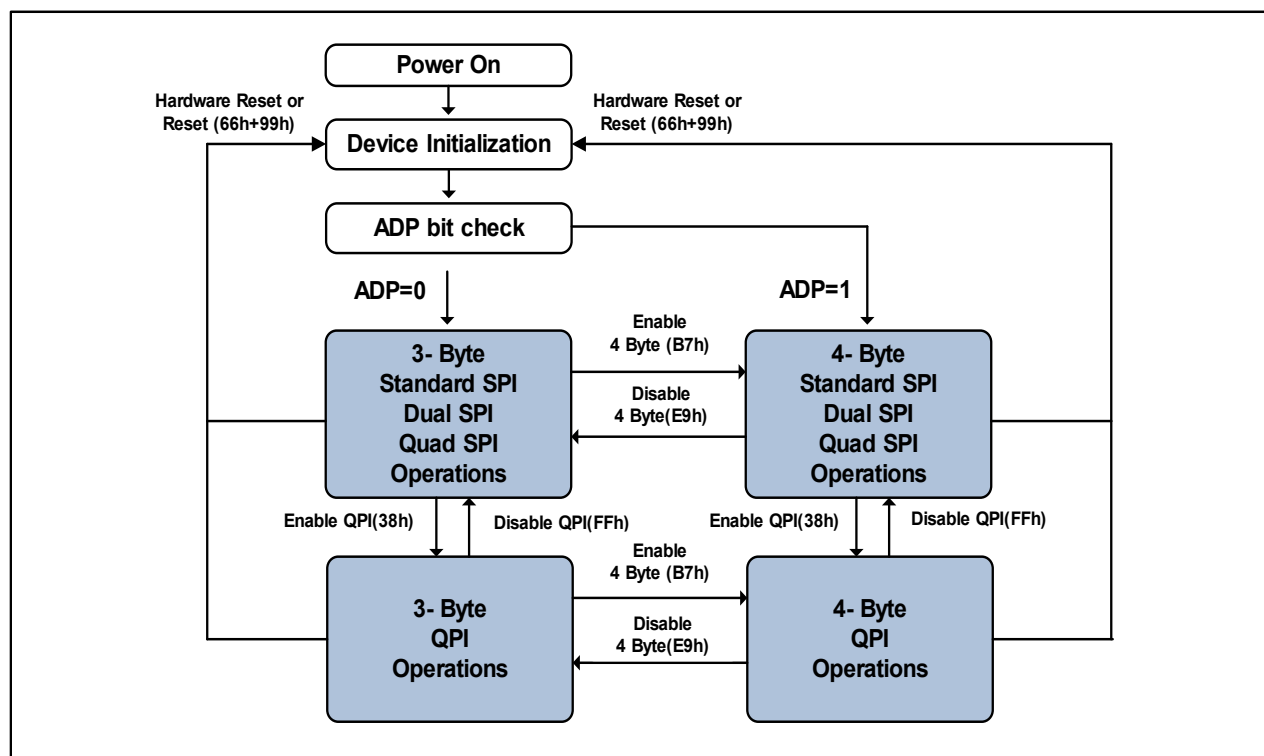

Figure 3. DS25M4BA Serial Flash Memory Operation Diagram
The DS25M4BA supports Quad Peripheral Interface (QPI) operations only when the device is switched from Standard/Dual/Quad SPI mode to QPI mode using the “Enter QPI (38h)” instruction. The typical SPI protocol requires that the byte-long instruction code being shifted into the device only via DI pin in eight serial clocks. The QPI mode utilizes all four IO pins to input the instruction code, thus only two serial clocks are required. This can significantly reduce the SPI instruction overhead and improve system performance in an XIP environment. Standard/Dual/Quad SPI mode and QPI mode are exclusive. Only one mode can be active at any given time. “Enter QPI (38h)” and “Exit QPI (FFh)” instructions are used to switch between these two modes. Upon power-up or after a software reset using “Reset (99h)” instruction, the default state of the device is Standard/Dual/Quad SPI mode. To enable QPI mode, the non-volatile Quad Enable bit (QE) in Status Register-2 is required to be set. When using QPI instructions, the DI and DO pins become bidirectional IO0 and IO1, and the /WP and /HOLD pins become IO2 and IO3 respectively. See Figure 3 for the device operation modes.